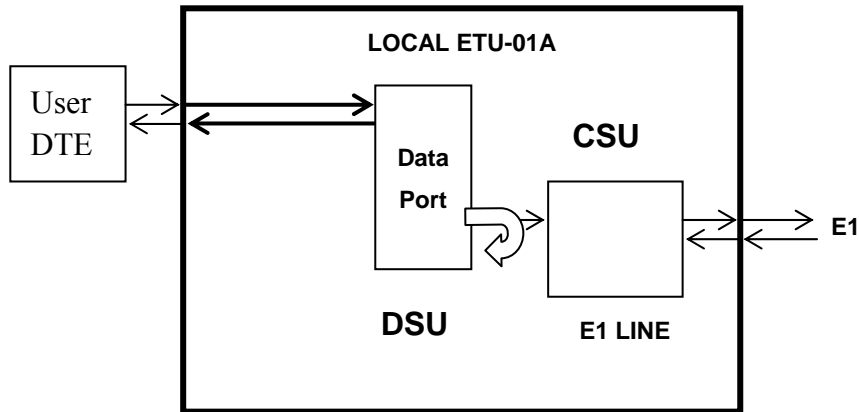

Figure 5-6. Data Port local analog loop back
Data Port local analog loop back is performed by connecting the data channel transmit data (TD) to the input of the receive path (RD) before the CSU, as shown in Figure 5-6. The test signal is provided by the local DTE.